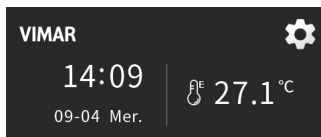

Fig. 2.3
- 4 - When external temperature is configured, there is an "E" at the upper right corner of the icon; When internal temperature is configured, there is no "E" at the upper right corner of the icon, as shown in Fig. 2.3;